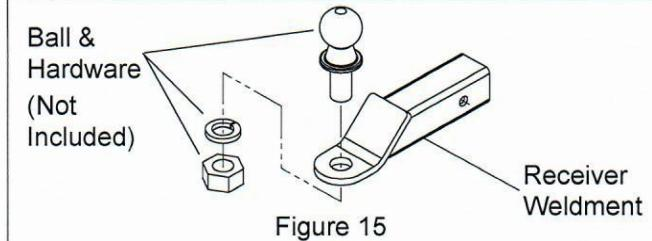

Figure 15
- Install trailer ball onto receiver weldment and tighten hardware (Figure 15).